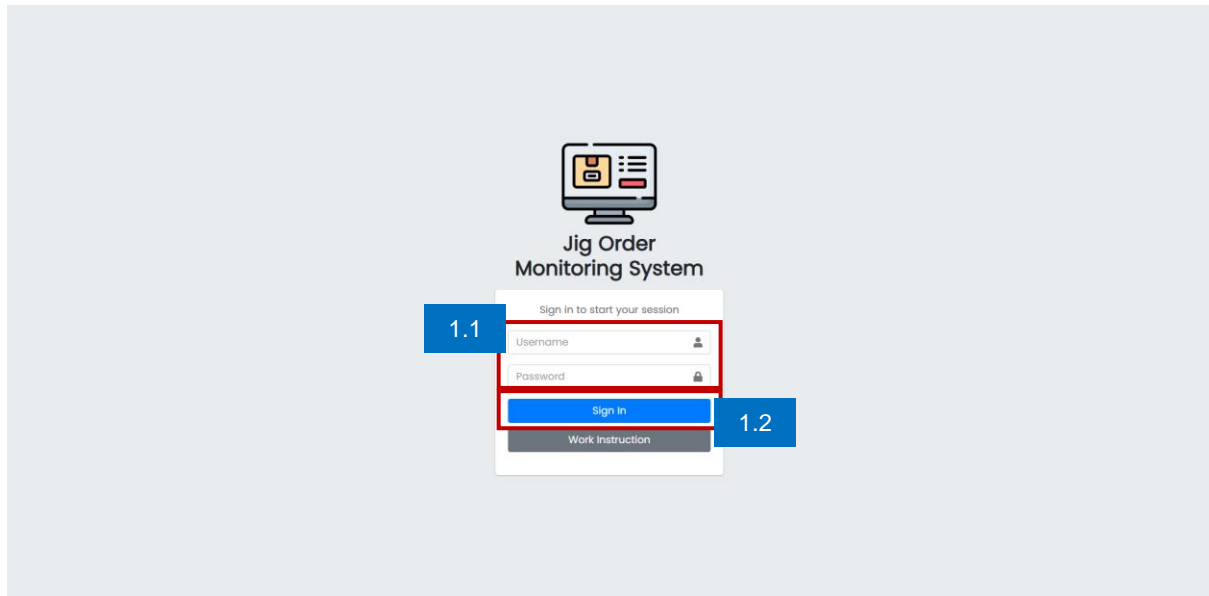

Figure 1. Login Page
1.1 Enter Username and Password. (See Figure 1)
1.2 Click Sign In Button to access Main Form. (See Figure 1)